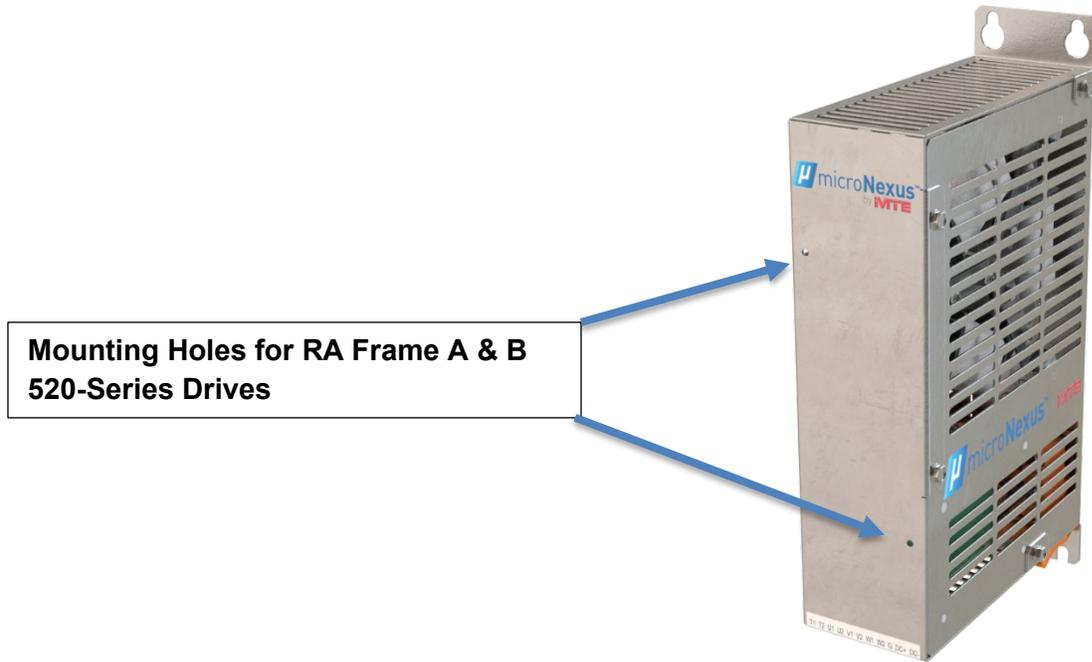
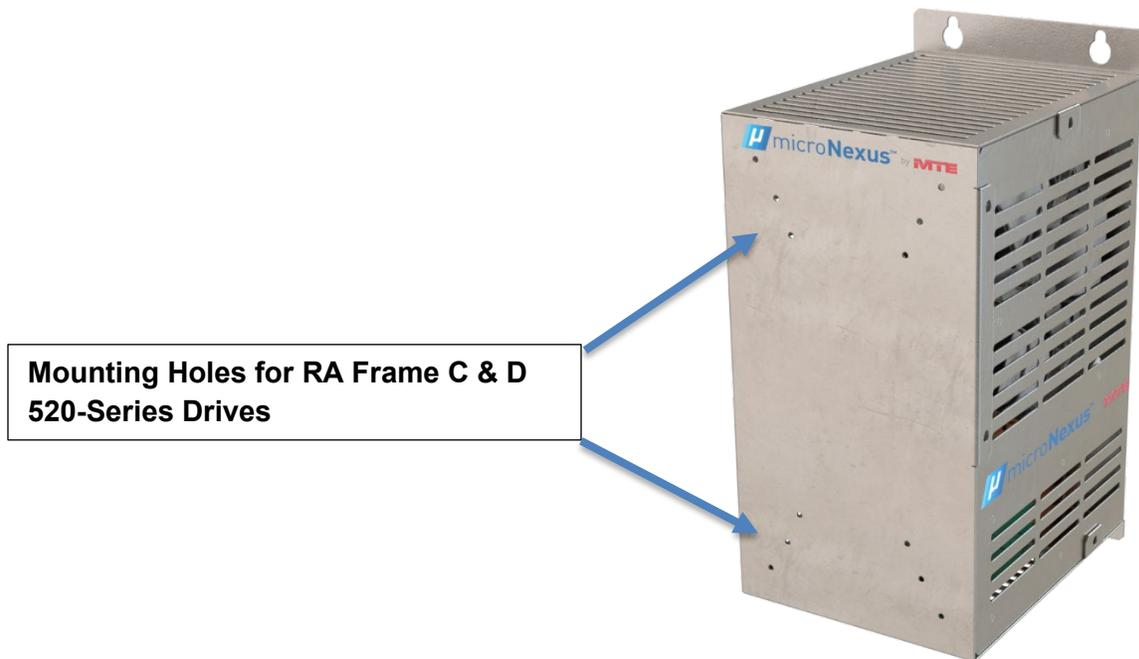

Figure 5-1: Rockwell 520-Series Frame A & B Mounting Capabilities
Figure 5-2: Rockwell 520-Series Frame C & D Mounting Capabilities
- Reference Figure 5-1 and Figure 5-2 (p14) for more information.